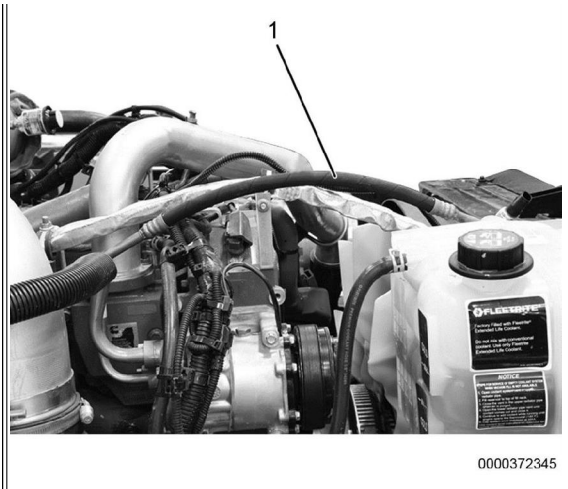

Figure 7: A/C Compressor Discharge Line - Cummins Equipped ProStar 122.
- 26. **Cummins - engine equipped vehicles**, install kit-supplied discharge line (Figure 7, Item 1) at compressor.